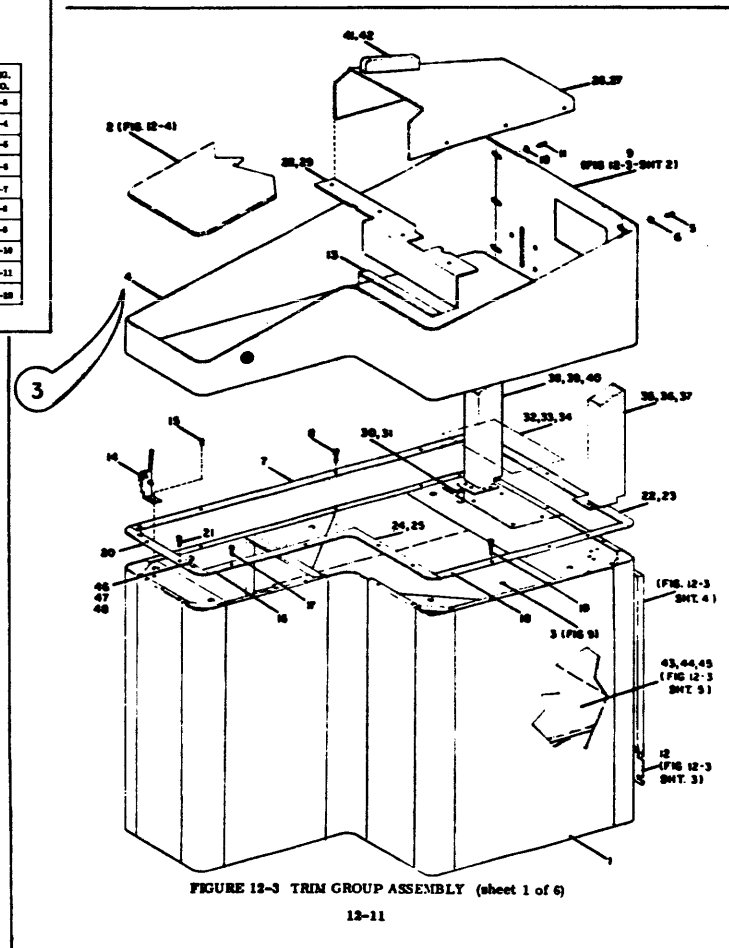

FIGURE 12-1 HOW TO USE ILLUSTRATED PARTS BREAKDOWN WHEN PART NUMBER IS NOT KNOWN
a. When the Part Number is not known (Figure 12-1):